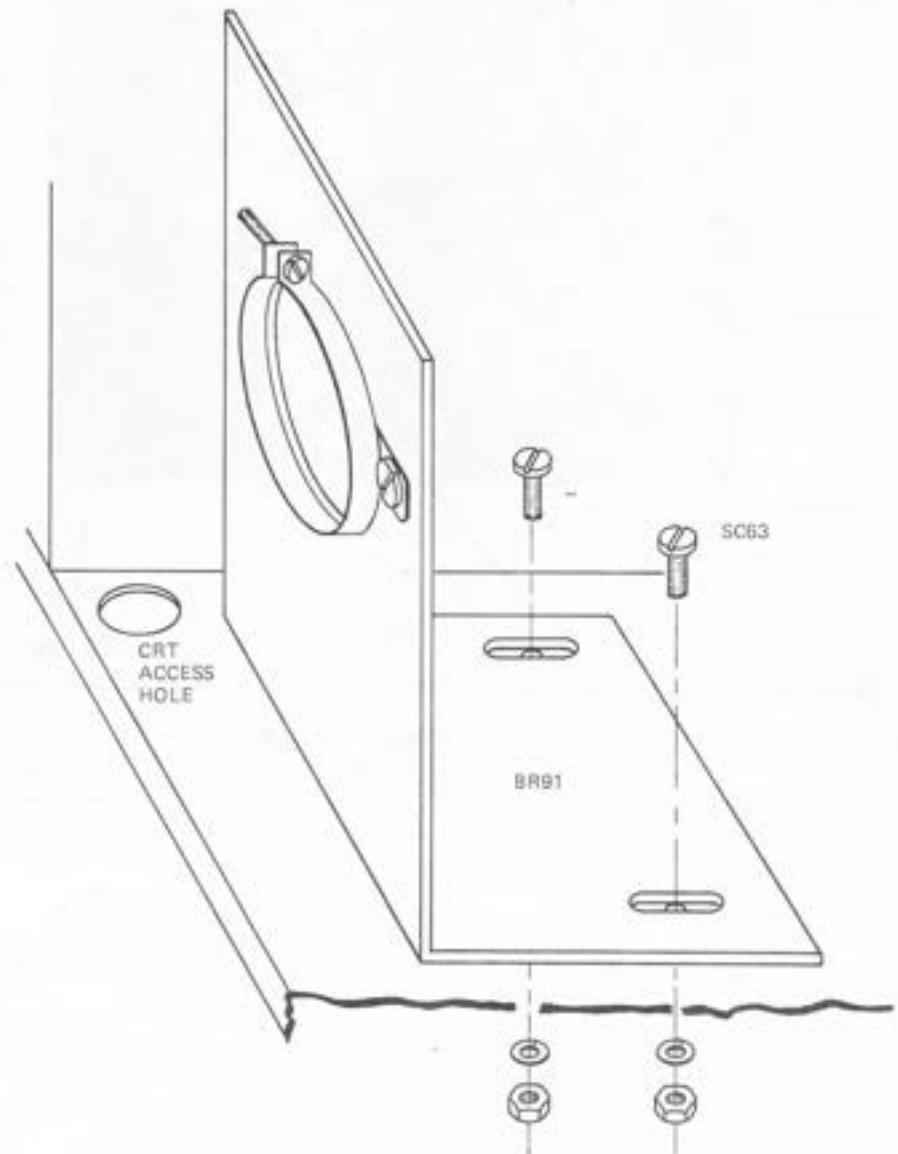

Figure 37. Installing BR91.
(5) Install BR91 on the main chassis using two 6-32 x 1/4" machine screws, lockwashers, and nuts as shown in Fig.37. Do not tighten this hardware at this time ()